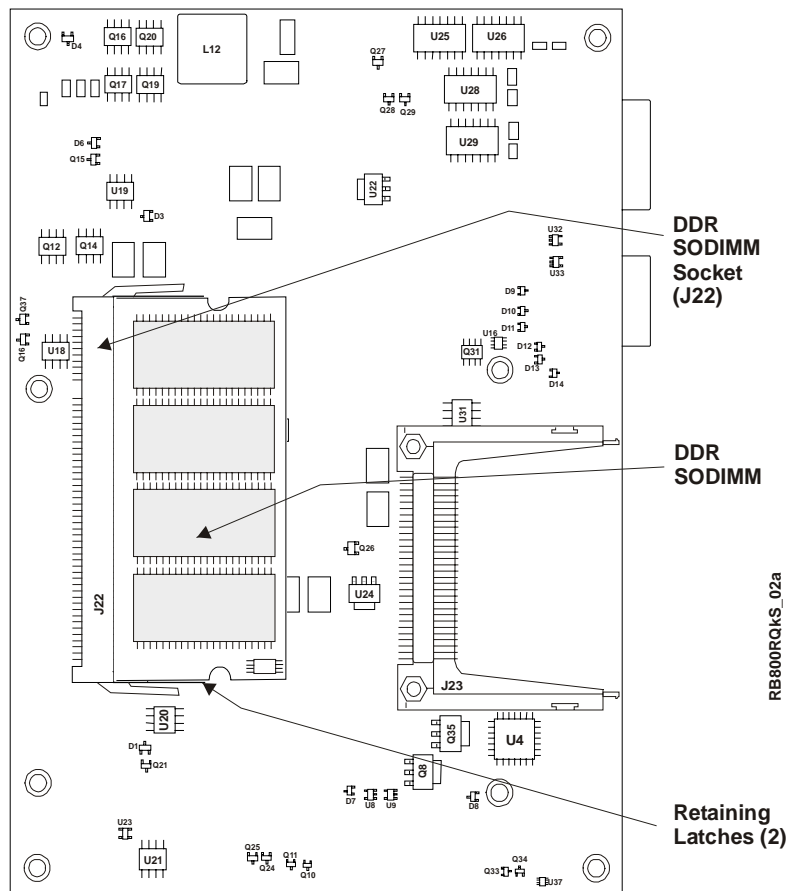

Figure 2-1. ReadyBoard 800 SODIMM Location (Bottom view)
- Turn the ReadyBoard 800 over to access the bottom of the board and lay it on a flat anti-static surface. See Figures 2-1 and 2-2.
- Locate the SODIMM socket (J22) on the bottom of the ReadyBoard 800. See Figure 2-1.
4. Turn the ReadyBoard 800 over to access the bottom of the board and lay it on a flat anti-static surface. See Figures 2-1 and 2-3.
7. Insert the compact flash card into the socket provided by the tabs on the protective cover as shown in Figure 2-1.